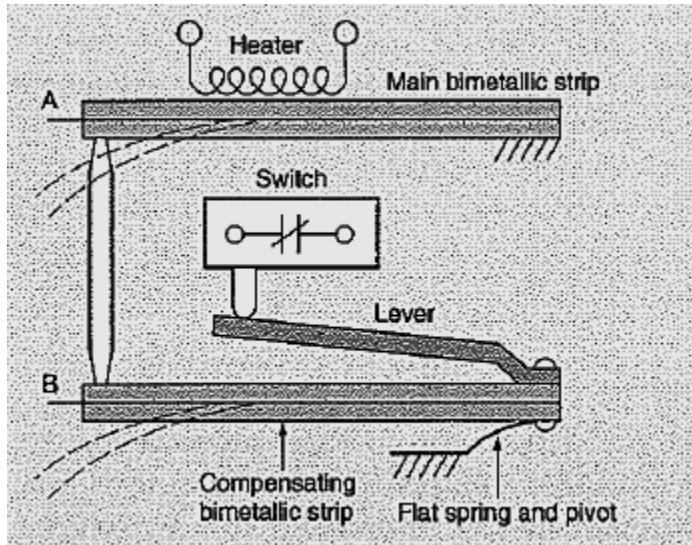

Figure 6.14: Temperature-Compensated Relay
- 6-78 The diagram in Figure 6.14, on the following page, shows how a compensated relay works. The main bimetallic strip is fixed at one end and receives the heat from the heater above it. The compensating bimetallic strip is riveted to a trip lever. A flat spring acts as a pivot and forces both bimetallic strips to bear against the spacer at points A and B. This force also holds the lever properly against the toggle switch, which is fixed in position.